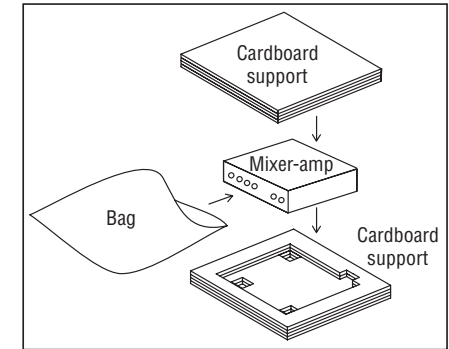

Figure 9.1 Packing.
3. When shipping your Crown product, it is important that it has adequate protection. We recommend you use the original pack material when returning the product for repair (Figure 9.1). If you do not have the original box, please call Crown at 800.342.6939 or 574.294.8210 and order new pack material. (Do not ship your unit in a wood or metal cabinet.)